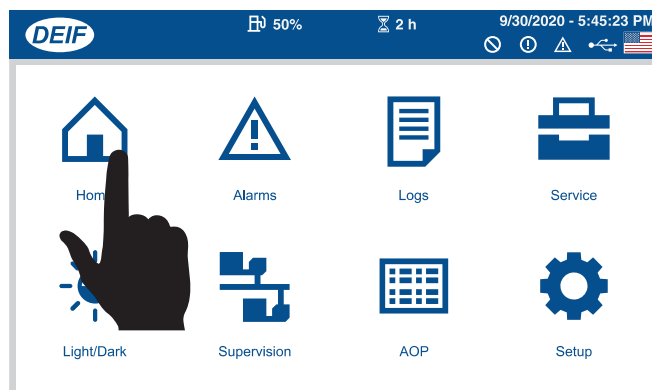

Figure 129. Main Menu Screen (Home Button)
14. Verify that the **Main Menu** screen (Figure 129) is displayed, then press the **Home** button.